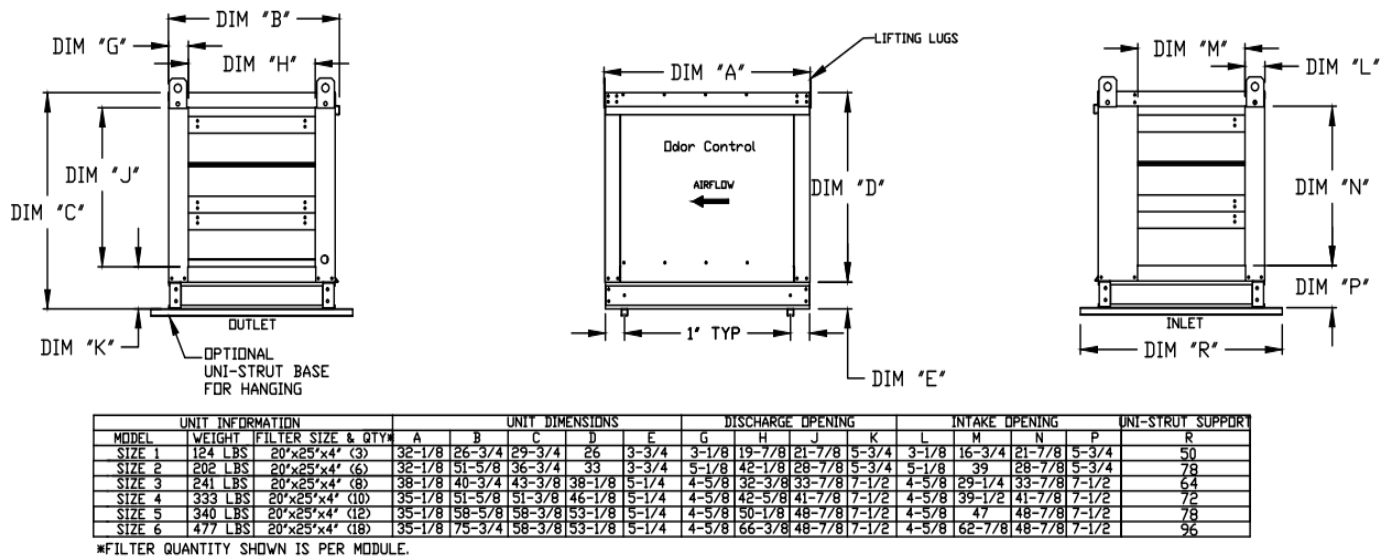

Fig. 8
- Refer to figure 8 for filter sizing and quantities.